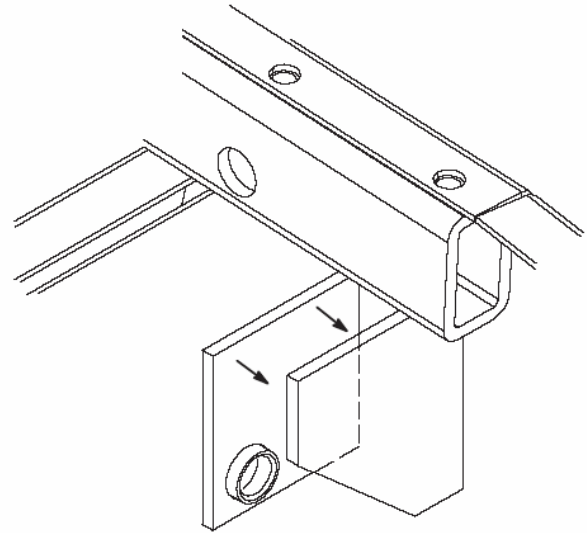

Figure 3
5. Clamp the new PTO mount onto the front of the existing mount while aligning the left and bottom edges (Fig. 3 & 4).